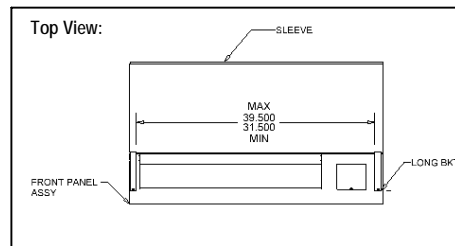

Figure 24
Installation when adaptor support brackets are mounted to finished wall (See Figure 24)
- 1- Remove the front panel assembly (part 4080699) and remove enclosure channel (item 6, part 4080698).
- 3- Remove the grill (item 18, part 6070046) from the unit.
- 4- Install the plenum (item 2, part 1900127) on the unit using four black pan screws (item 16, part 6060026).
- 5- Pre-assemble duct (items 7 & 8, parts 4080701 & 4080702) (shipped as 4080704) with end cap (item 9, part 4080703), baffle (item 4, part 2500188), and grill (item 18, part 6070046) using the hardware shown.
- 7- Install the long bracket (item 1, part 1600152) to the wall. **See Figure 24 Top View**
- 9- Mount the front panel assembly without enclosure channel (item 6, part 4080698).
- 10- Install the extension (item 10, part 4080707) or the connectors as needed.
- 11- Air delivery baffle (item 4, part 2500188), located under the discharge air grill, is factory positioned to provide a 50-50 distribution of air into each zone. By removing it and cutting along the scored line, results in 60-40 air distribution. Removing the baffle completely will result in 70-30 split.